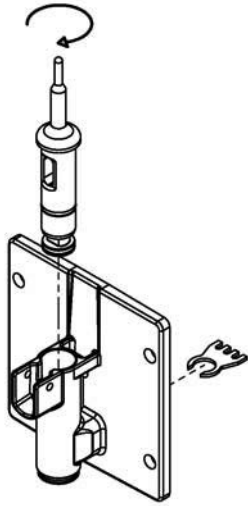

Figure 3-5 Spigot and Ice Breaker Bar Removal
- I. Turn the spigot body until the ice breaker bar can be removed. Remove breaker bar (Refer to Figure 3-5).